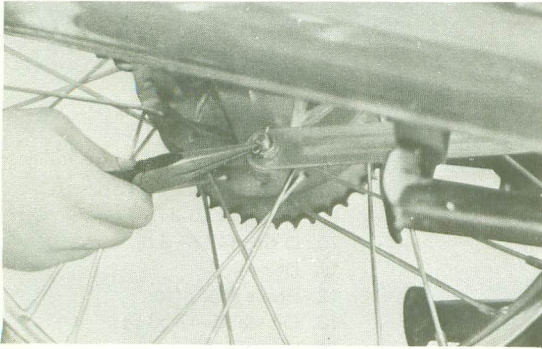

Fig. 5-2-2
(1) Remove the tension bar (anchor bar) and brake rod from the rear brake shoe plate. (Figs. 5-2-2, 3 and 4)